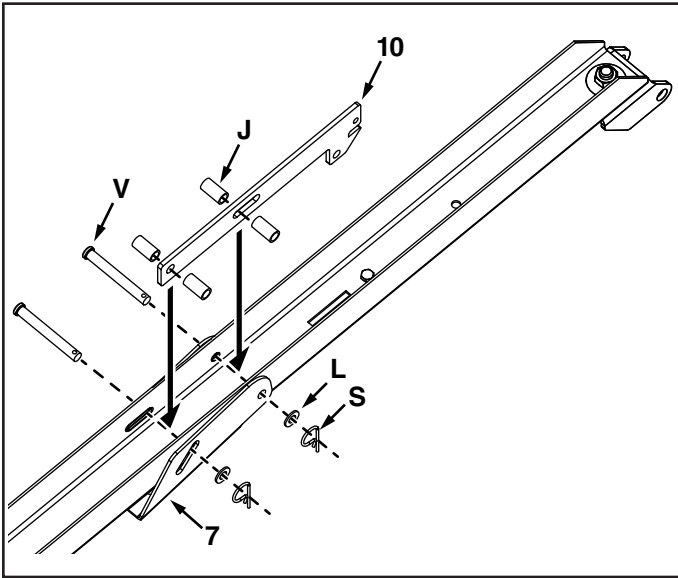

FIGURE 4
STEP 4: (SEE FIGURE 4)
1. Attach the pedal bracket (7) and the latch (10) to the tongue using two $\frac{3}{8}$ " x $3\frac{1}{4}$ " clevis pins (V), four spacers (J), two $\frac{3}{8}$ " x .875" washers (L), and two $\frac{3}{32}$ " x $\frac{1}{8}$ " hair pins (S).